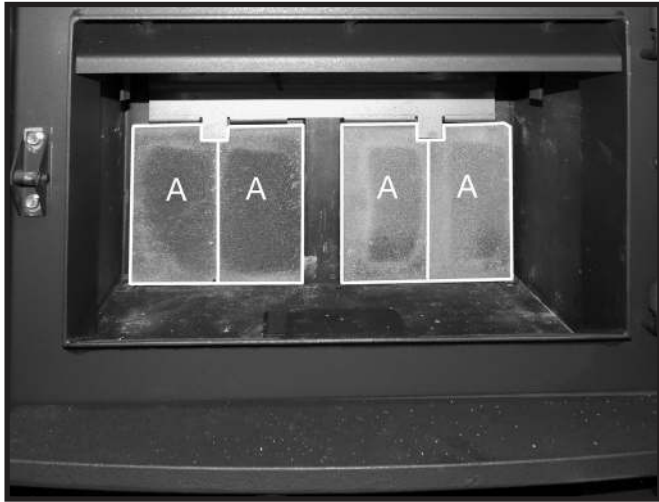

Figure 13: Remaining rear wall firebricks in place.
1. Stand one "A" firebrick vertically behind the tab located on the brick rail. Slide the firebrick toward the center of the rear wall (Figure 13). Slide a 2nd "A" firebrick underneath the tab on the brick rail (Figure 13).
Repeat steps 1 & 2 for the placement of the other "A" firebricks on the rear wall (Figure 13).